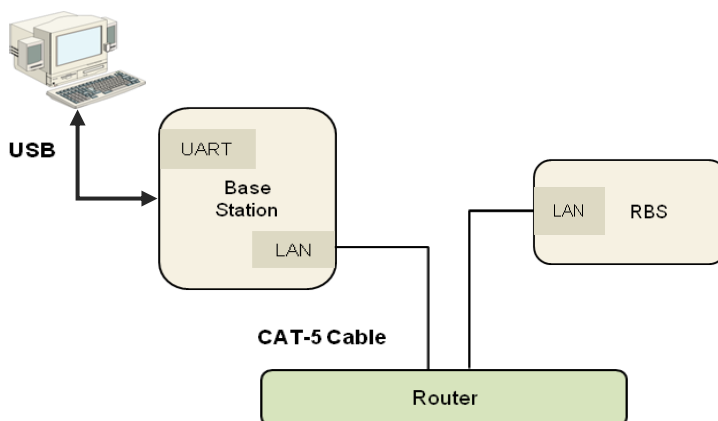

Figure 3-27. Connections example
**Step 3:** Wire the Base Station with the Remote Base Station for actual operation as shown from the Figure 3-27.